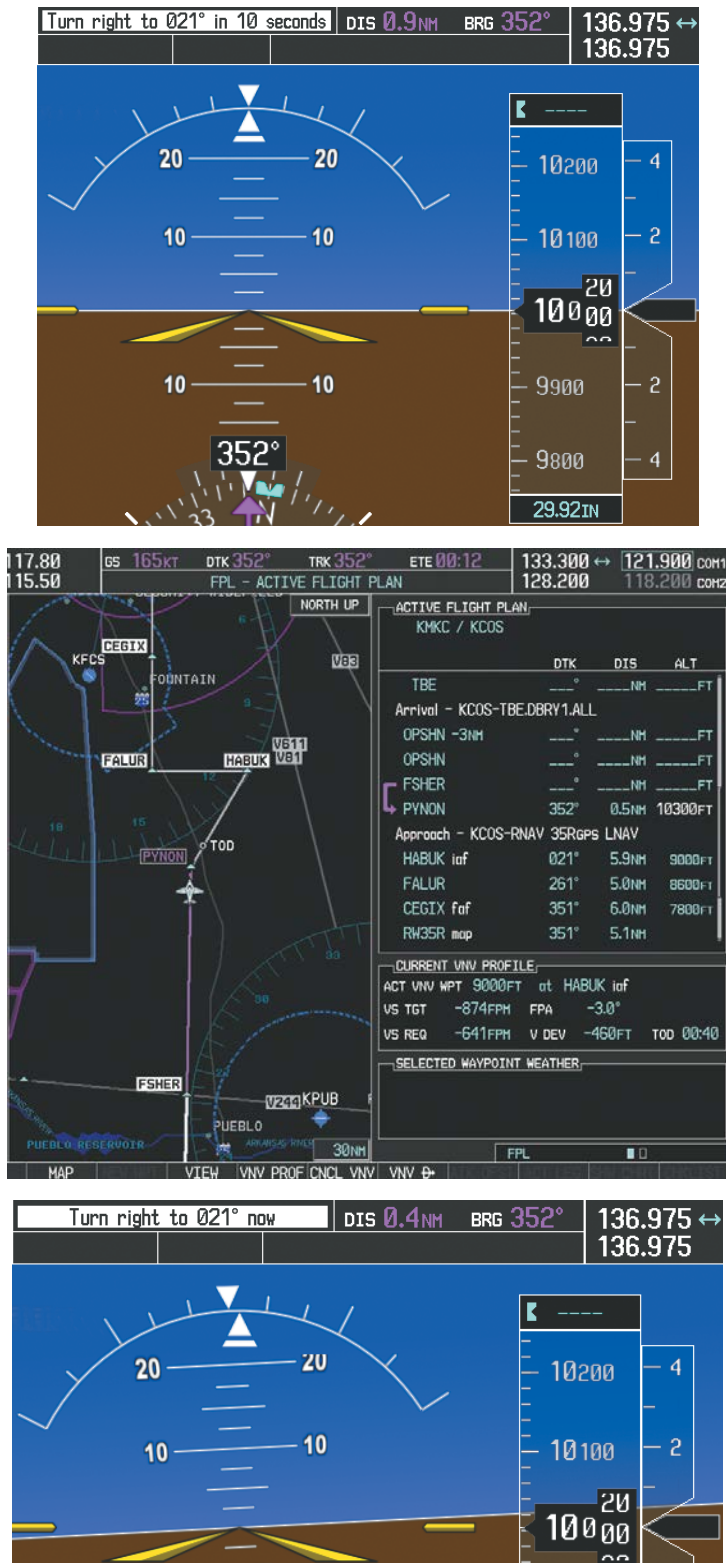

Figure 5-137 Approaching PYNON
- 20) The flight continues through the arrival procedure to PYNON (see Figure 5-137). At a point 31 nm from the destination airport, the phase of flight scaling for the CDI changes to Terminal Mode and is annunciated by displaying 'TERM' on the HSI.